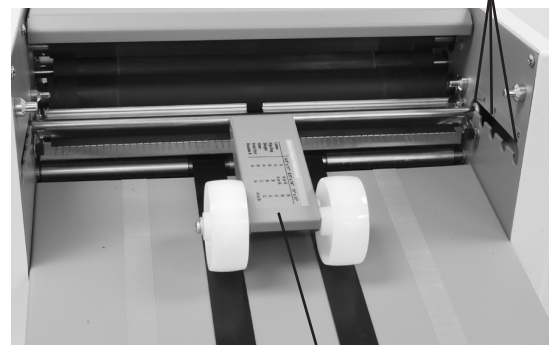

Fig. 6
3. FD 386 ONLY: Move the stacker wheels to the proper position for the paper size (Fig. 6) (Refer to chart below). *Stacker wheels will automatically adjust on the FD 38Xi.*